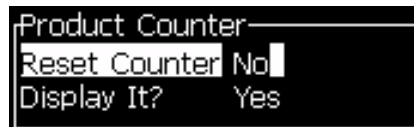

Figure 4-16: Product Counter Dialog Box
- 3 Press the *Enter* key to open the product counter dialog box (Figure 4-16).